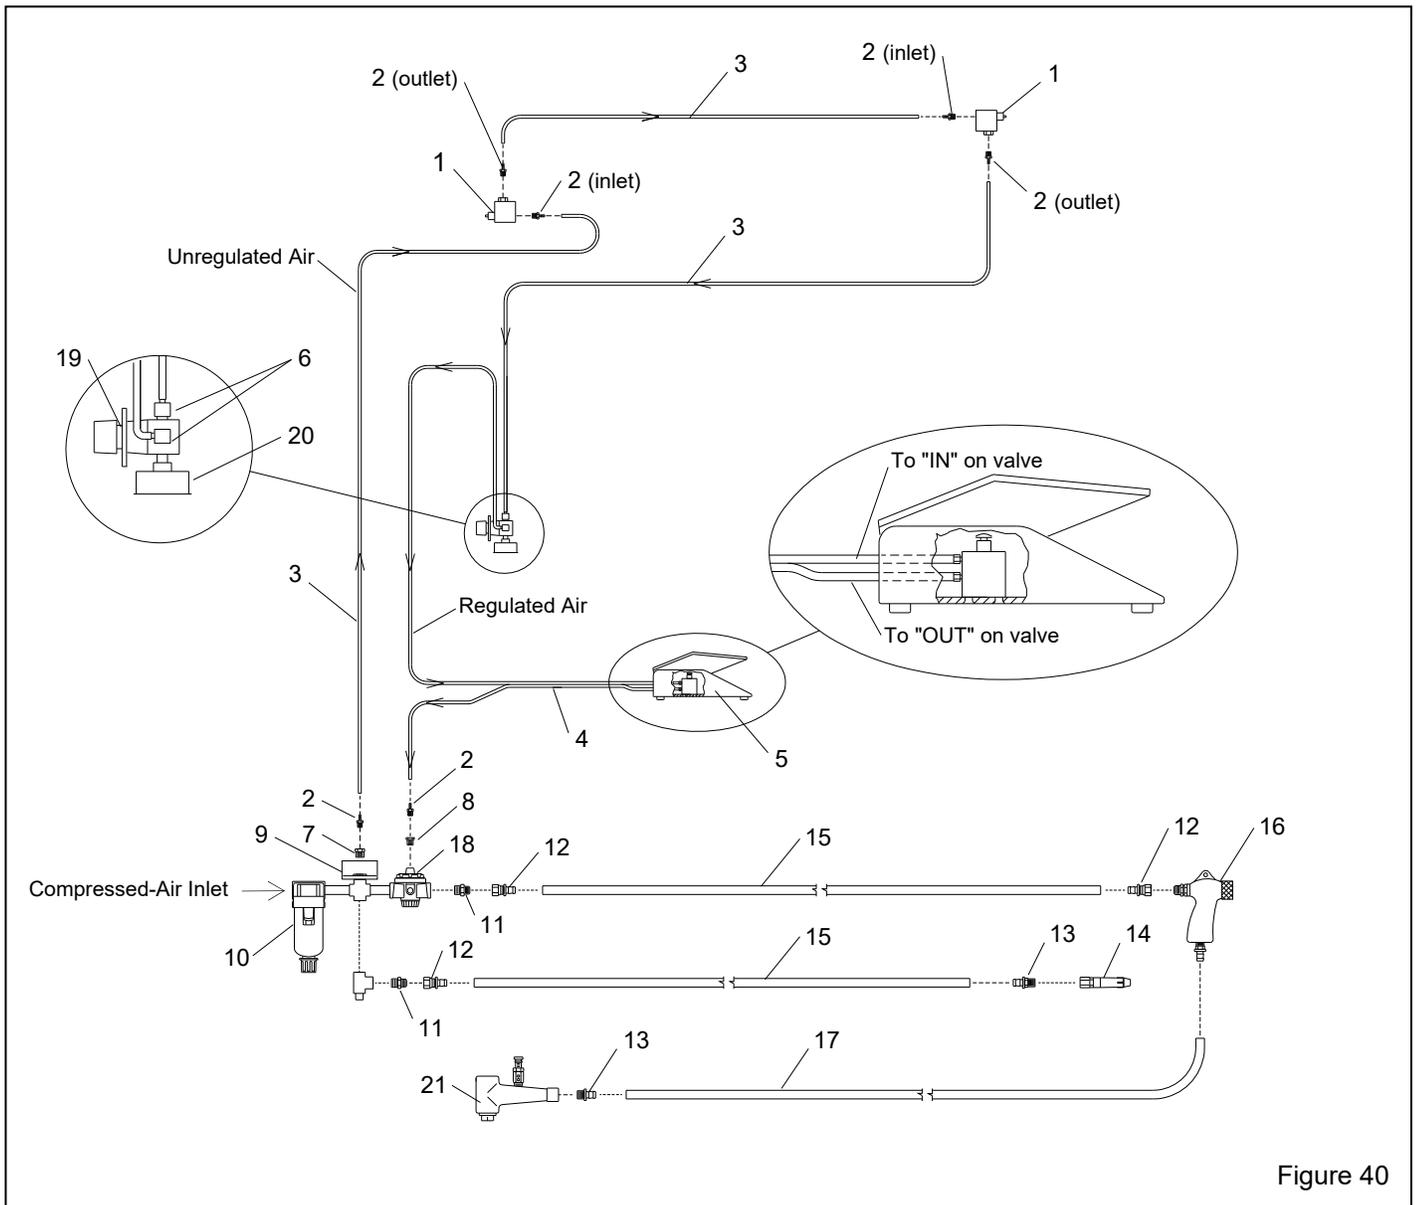

Figure 40
9.9 Cabinet Controls and Plumbing – Figure 40